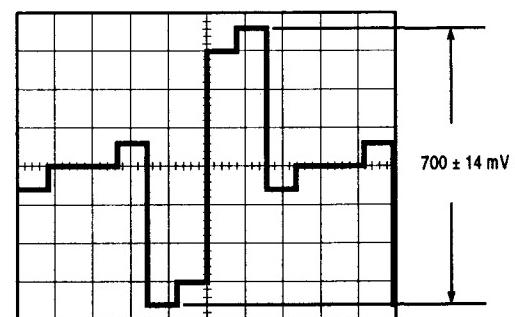

Fig. 5-1-14
- Adjust VR12 so that the PR Level becomes 700 ± 14 mV as shown in Fig. 5-1-14.